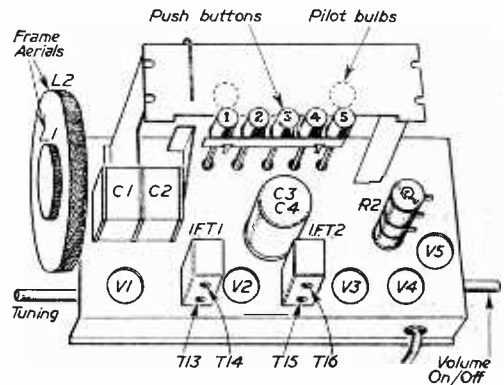

Fig. 3.—A top view of the chassis.
Tune the receiver to 300 metres M.W. and the signal generator to 465 kc/s, and inject the signal between the control grid of V2 and chassis. Adjust T16 and T15 (Fig. 3) for maximum output. Inject the signal between the control grid of V1 and chassis and adjust T14 and T13 (Fig. 3) for maximum output, reducing the signal from the generator as the circuits approach correct alignment—do not readjust T16 and T15.
The push-buttons as numbered on Fig. 3 are (1) M.W. manual, (2) L.W. manual, (3) 200-350 metres pre-set, (4) 325-550 metres pre-set, (5) 1,100-1,875 metres pre-set.